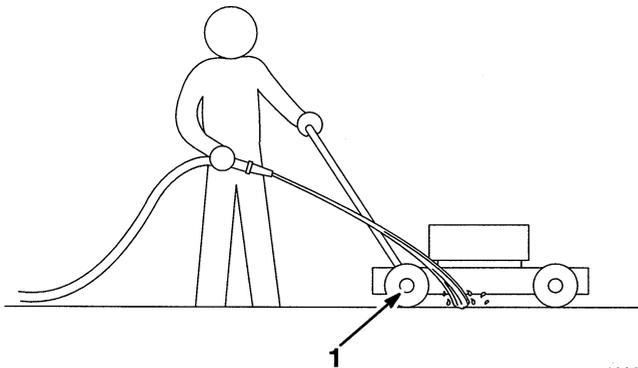

Figure 27
3. Hold the running garden hose at handle level and direct water to flow on ground just in front of right rear tire (Fig. 27). The rotating blade will draw water under the housing and wash out clippings. Let the water run for a few minutes or until you no longer see clippings being washed out from under housing.